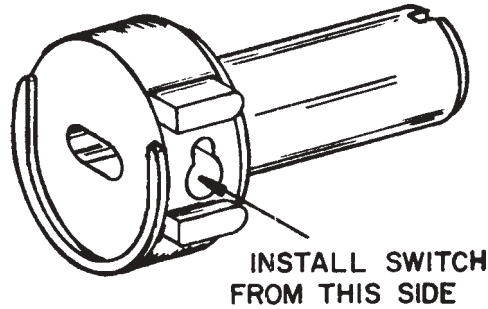

Figure 3 - Switch Installation
- Remove the two nuts (6) which secure the front housing to the rear housing.
- Rotate the switch holders so that open side of their flanges faces toward you. Compress springs (12, Dwg. 500.000.000.002) by pressing switch holders (10) away from each other. This allows magnet sleeve cover (9), caps (11) and magnet holder (8) to be lifted out as an assembly. Disassemble further by pulling off sleeve cover caps and removing magnet and holder.
- Remove switch holders (10) and springs (12) from housing. To remove switch from holder, unscrew set screw (7). Remove spring (13) and bias magnets (14) by shaking them out of holder. Carefully pull switch (15) out of holder.
- (1) Install the reed switch with glass tube in larger hole, wire in small hole. Install switch from side shown in Figure 3.